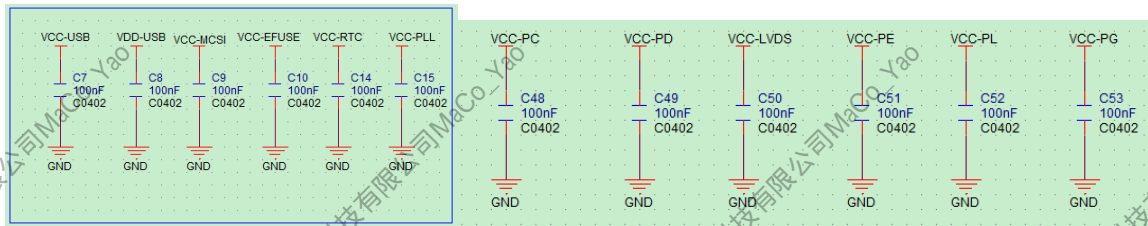

Figure 2-13 SoC Power Pin
- The rest of the SoC power pins must be connected to the external filter capacitors by following the standard case, and these capacitors need be placed close to the power pins during PCB design and cannot be deleted, such as PLL, EFUSE, RTC, GPIO, and so on. As shown in Figure 2-13.